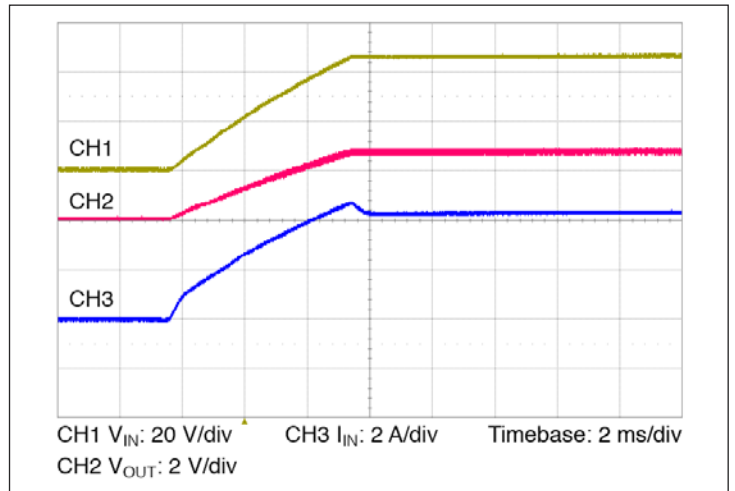

Figure 10 — Start up from application of V_{IN} ; VC pre-applied $C_{OUT} = 16000 \mu F$
- Normal operation (VC applied prior to V_{IN}): In this case the controller is active prior to ramping the input. When the input voltage is applied, the VTM module output voltage will track the input (See Figure 10). The inrush current is determined by the input voltage rate of rise and output capacitance. If the VC voltage is removed prior to the input reaching 26 V, the VTM may shut down.